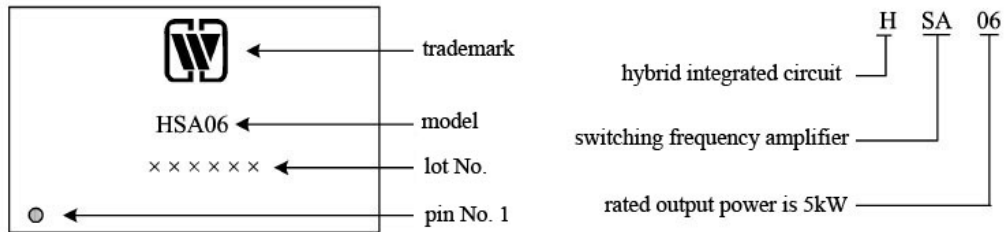

Fig. 8 Part numbering key
10. Part numbering key (Fig. 8)